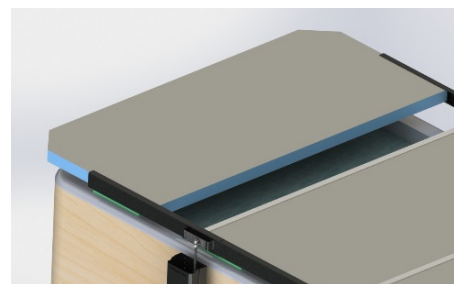

Figure 22
18. Reinstall the end panel back in its position in the c-channel. Make sure to not delaminate the cover while inserting it in the c-channel (Figure 22).